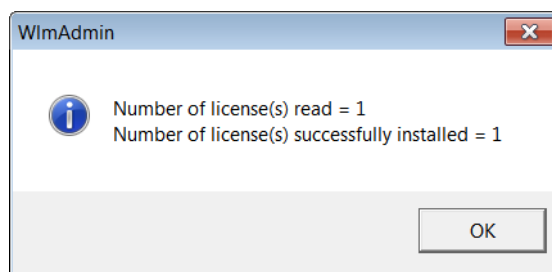

Fig. E-34: WlmAdmin License Read message
- Browse to your license file and click **Open**. The license file is read and the licensed feature is added to the license server. An acknowledging message is displayed, see Figure E-34.